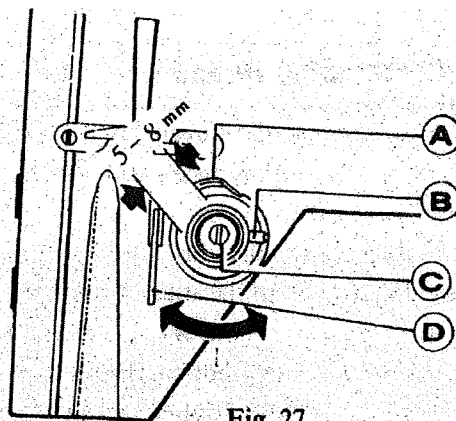

Fig. 27
**(2) Adjusting the swing range of thread take-up spring (Fig. 27).**